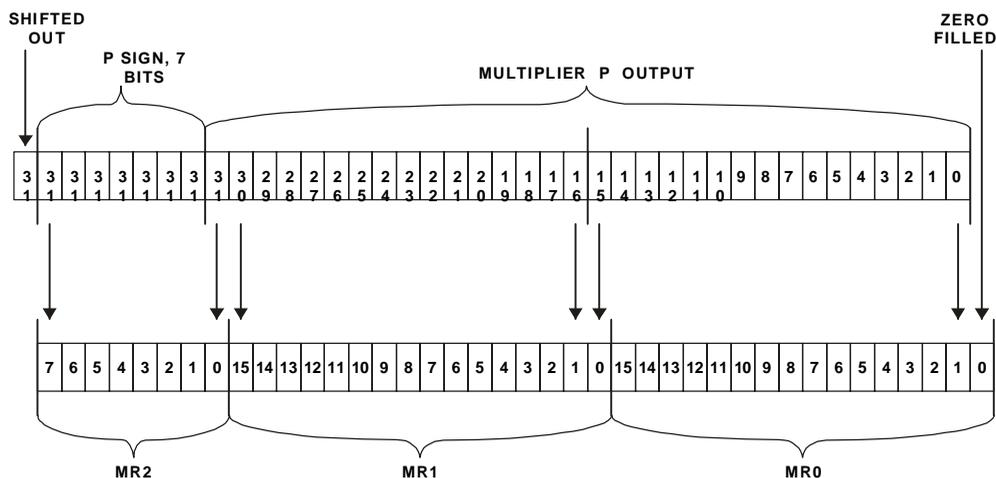

Figure 2-3. Fractional Multiplier Results Format
transferring the result to the multiplier result register (MR). This shift causes the multiplier result to be in 1.31 format, which can be rounded to 1.15 format. This result format appears in Figure 2-3 on page 2-14.
In the fractional mode, the 32-bit product output is format adjusted—sign-extended and shifted one bit to the left—before being added to `MR`. For example, bit 31 of the product lines up with bit 32 of `MR` (which is bit 0 of `MR2`) and bit 0 of the product lines up with bit 1 of `MR` (which is bit 1 of `MR0`). The LSB is zero-filled. The fractional multiplier result format appears in Figure 2-3 on page 2-14.